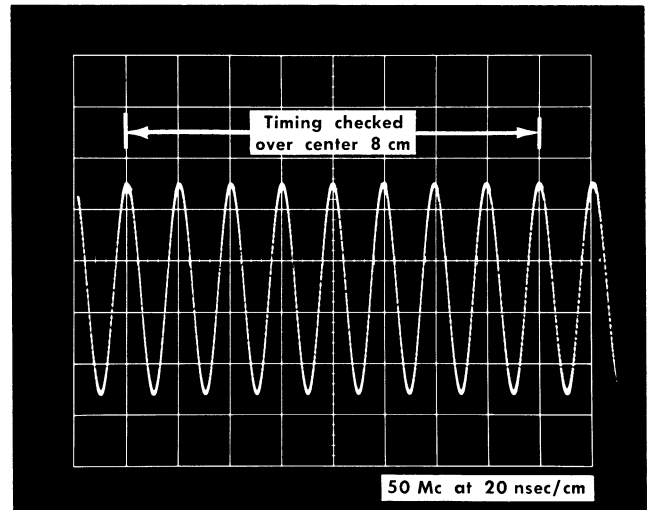

Fig. 5-33. Typical waveform for checking equivalent-time sweep timing and linearity.
- e. **Check** the equivalent-time sweep rates as given in the table. Timing is checked over the center 8 cm of the graticule (see Fig. 5-33). Adjust the amplitude as required. (The 10, 5, 2 and 1 nSEC positions of the EQUIVALENT TIME/CM switch were checked by step 16.) Timing accuracy should be within 3% on all sweep rates. If not, R340 (TIMING CURRENT) may need to be readjusted slightly (see step 15). If the timing current is changed, also check steps 16, 17 and 19.